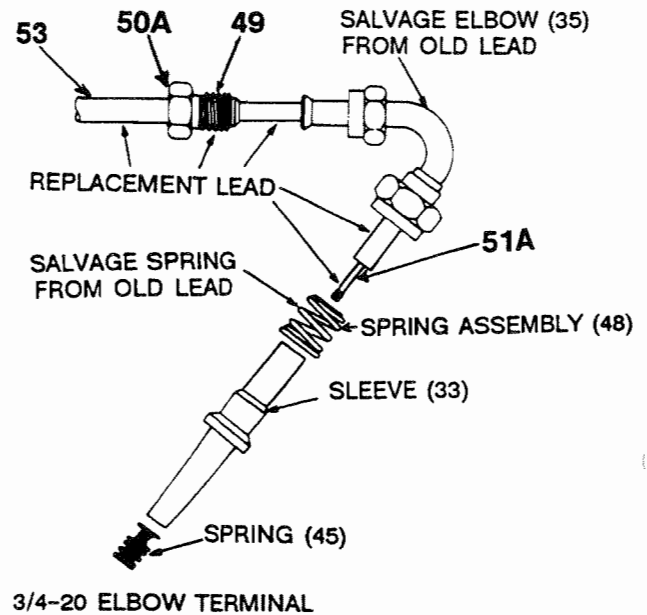

Figure 911
A. 3/4-20 elbow spark plug terminals (see Figure 911).
- (1) Insert 11-9596 nylon tube between shielding and insulation to approximately 4 inch depth.
- (2) With nylon tube 11-9596 acting as a protective sleeve, cut off 4 inches of sleeving. Using nylon tube to protect insulation, scrape 3/8 in. blue coating from end of braided copper shielding.
- (3) Remove nylon tube and strip 3/8 inch of insulation from conductor.
- (4) Crimp terminal (51A) to conductor, using modified WT-111 M crimping tool.